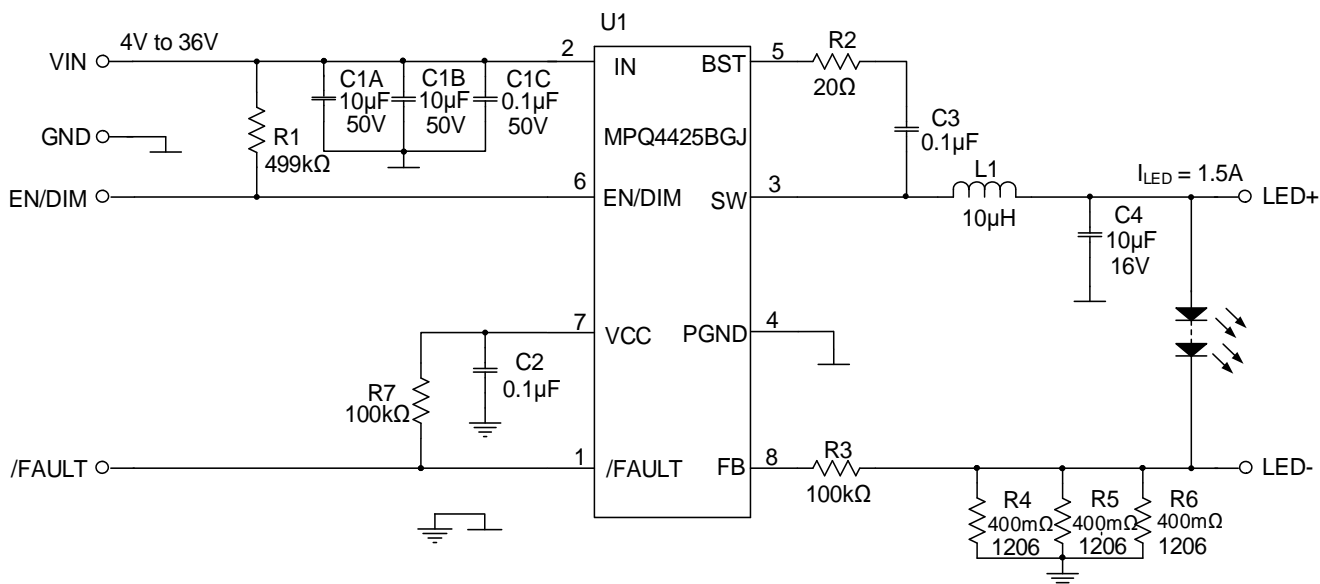

**Figure 9:  $I_{LED} = 1.5A$  Application Circuit of QFN-13 Package**
- 8) The recommended layout is based on Figure 9.